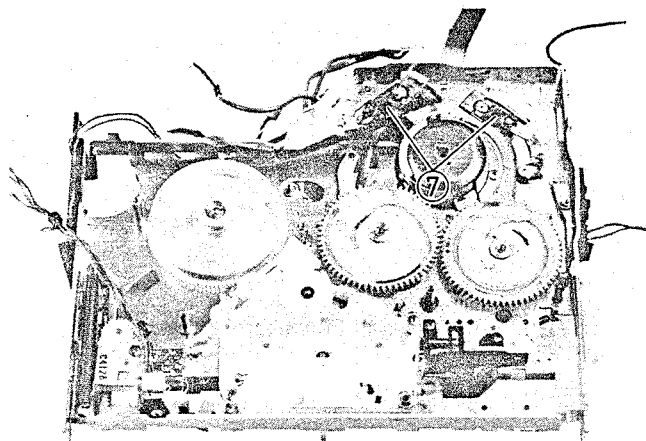

Fig. 2-113 Guide Roller Base Removal
Guide Roller Base Removal (Fig. 2-113)
7. Remove two (2) screws holding the limit plate and guide roller base. (See Fig. 2-113)